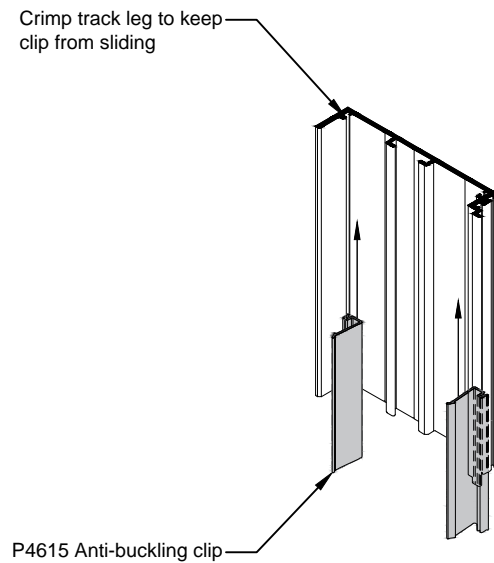

Fig. 33.1
- A. Slide P4615 anti-buckling clips into location on the female verticals. Refer to approved shop drawings for correct number and location. Note that it is best to locate clips at the top, bottom and mid-point of each frame unit for best results. Crimp clips into place. See Fig. 33.1.